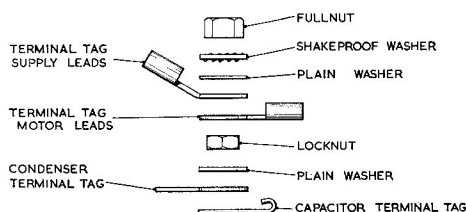

Fig. 14. Terminals, order of assembly
(6) Build up the two outer terminals of the terminal block in accordance with the sequence illustrated diagrammatically in fig. 14. Each terminal should comprise a capacitor lead tag and a condenser assembly tag clamped by a plain washer